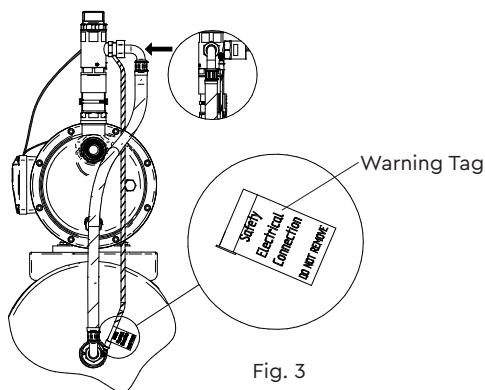

Fig. 3
- 4.15 **Supplementary Bonding:** The pressure set is factory fitted with a supplementary earthing wire to ensure continuity throughout the assembly (Fig. 3). It must be ensured throughout the product life that this electrical connection remains in place.